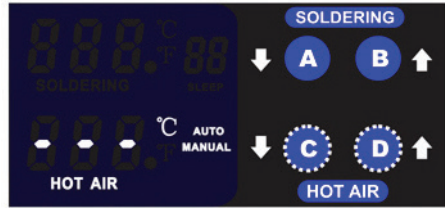

Figure 1
1. Press and hold both buttons labeled C and D in figure 1 for four seconds.